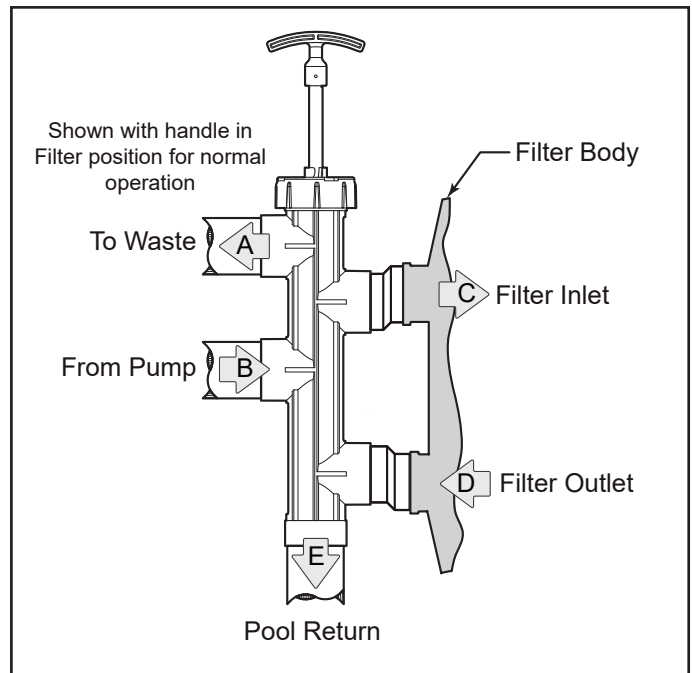

Figure 8. SVLV2 with Versa Couplers Installed
8. Slide one (1) versa-coupler into **PORT C** and one (1) into **PORT D** on the slide valve. See Figure 8.
- If glued, hold the coupler in place for a minimum of one (1) minute.
8. Return the slide valve handle to the normal operating position. See Figure 8.